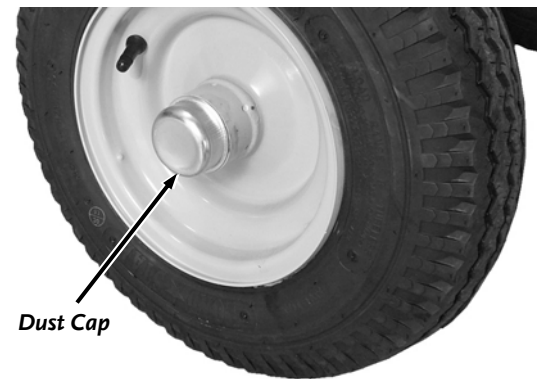

Figure 64
2. Remove the Dust Cap from the Wheel Assembly with Channel Lock Pliers (**Figure 64**).